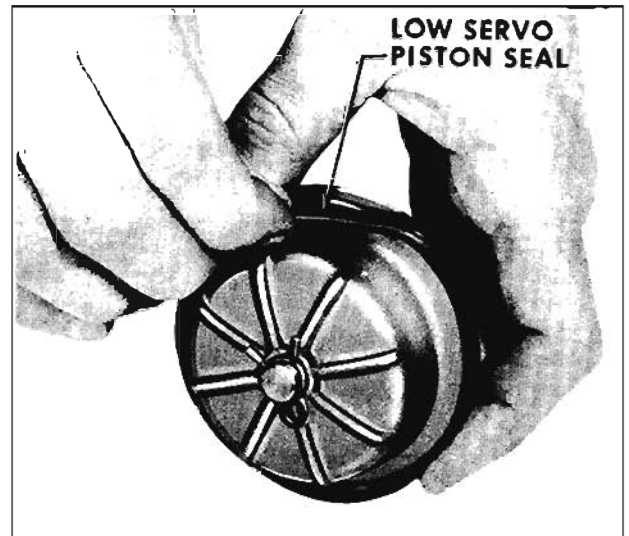

Fig. 6-316 Removing and Installing Low Servo Piston Seal
1. Remove low servo piston seal. (Fig. 6-316)
Install low servo piston seal. (Fig. 6-316)